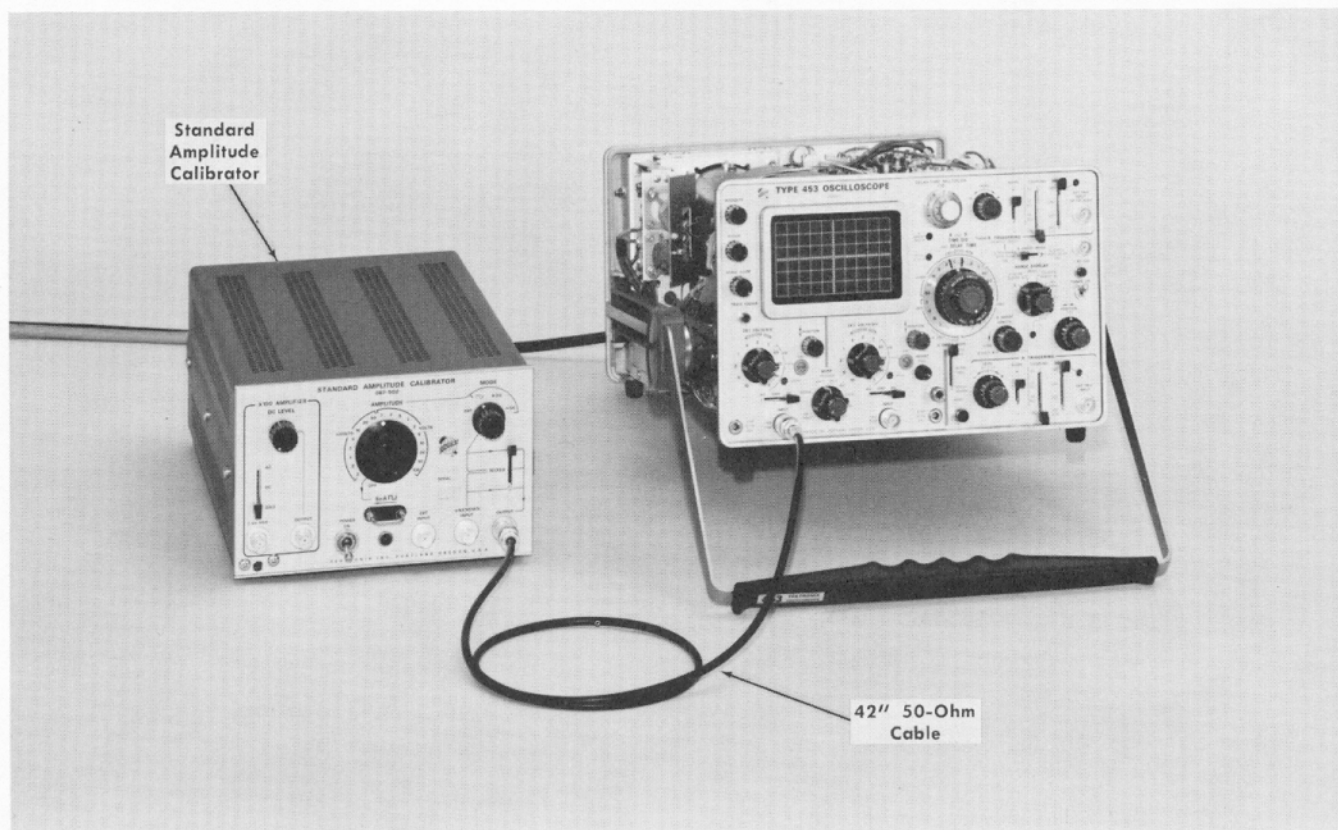

Fig. 6-54. Initial test equipment setup for steps 55 through 59.
55. Adjust External Horizontal Gain and ① Check Operation
- Test setup is shown in Fig. 6-54.